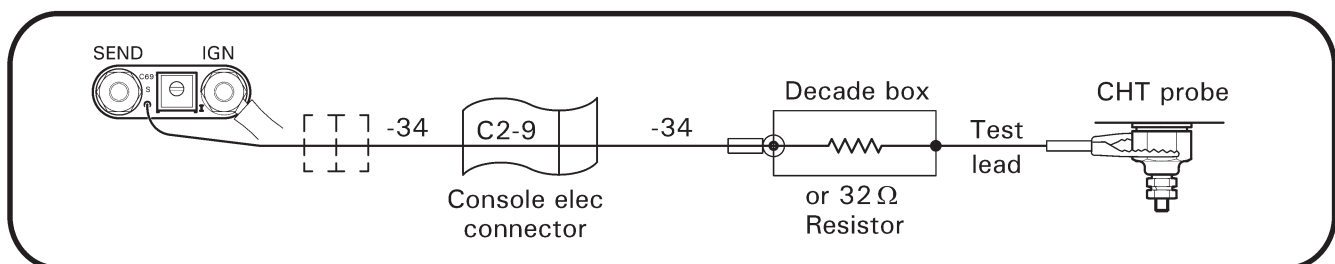

FIGURE 13-2 CYLINDER HEAT TEMPERATURE GAGE CALIBRATION
5. Refer to Figure 13-2. Adjust resistance decade box to  $32 \pm 0.4$  ohms and verify resistance with multimeter. Alternately, a  $32.0 \pm 0.4$  ohm resistor may be used instead of decade box. Connect a low-impedance ( $< 1$  ohm) test lead to one terminal on decade box and clamp opposite end of lead to hexagonal body of CHT probe; do not connect lead to center conductor of sender/probe. Connect -34 wire to remaining terminal on decade box.